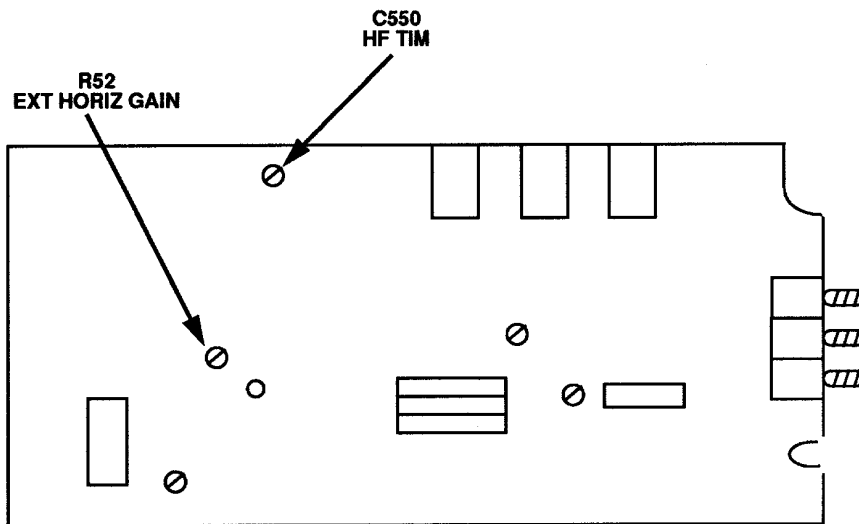
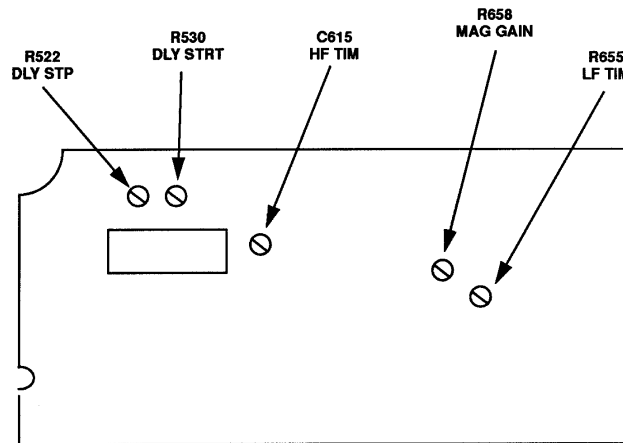

Figure 1. Test instrument A board - left-side view.
Figure 2. Test instrument B board - right-side view.
(1) Connect oscilloscope calibrator **SOURCE/MEASURE CHAN 1** to **TI EXT HORIZ AMPL.**
(2) Set oscilloscope calibrator **VOLTAGE** output for .5 V, 1 kHz.
(3) Adjust **TI POSITION** control to position dots to extreme right and left vertical graticule lines.
(4) Adjust dual trace amplifier **CH 1 POSITION** control to vertically center the dots.
(5) Adjust oscilloscope calibrator **EDIT FIELD** knob for 10 divisions of horizontal deflection on oscilloscope. If oscilloscope calibrator **err** display does not indicate within $\pm 3\%$, perform **b** below.
b. Adjustments Adjust oscilloscope calibrator **EDIT FIELD** knob for a 0.0% **err** display indication. Adjust **R52 EXT HORIZ GAIN** (fig. 1) for a 10 division horizontal deflection on oscilloscope (R).
(1) Release TI SWP MAG pushbutton (out), set TI MAIN SEC/DIV switch to 1 m and oscilloscope calibrator MARKER output for 1 mS/D. If necessary, adjust oscilloscope calibrator EDIT FIELD knob for a 0.0% err display indication.
(2) Adjust TI POSITION control to align 1st time marker with 1st vertical graticule line (extreme left). Adjust R655 LF TIM (fig. 2) to align one time marker per division (R).
(3) Press TI SWP MAG pushbutton. Adjust R658 MAG GAIN (fig. 2) to align one time marker per division (R).
(4) Release TI SWP MAG pushbutton (out), set TI MAIN SEC/DIV switch to .5 μ and oscilloscope calibrator MARKER output for .5 μS/D.
(5) Adjust TI POSITION control to align 1st time marker with 1st vertical graticule line (extreme left). Adjust C550 HF TIM (fig. 1) to align one time marker per division (R).
- (1) Set TI **MAIN SEC/DIV** switch to **1 μ** , **DLY'D SEC/DIV** switch to **.5 μ** and oscilloscope calibrator **MARKER** output for **.5 μ S/D**. If necessary, adjust oscilloscope calibrator **EDIT FIELD** knob for a 0.0% **err** display indication.
- (2) Adjust TI **POSITION** control to align 1st time marker with 1st vertical graticule line (extreme left). Adjust C615 HF TIM (fig. 2) to align one time marker per division (R).
- (3) Adjust **DELAY TIME MULT** dial to **1.00** and adjust R530 DLY STRT (fig. 2) until intensified portion of trace starts on 2d vertical graticule line (R).
- (4) Adjust **DELAY TIME MULT** dial to **9.00** and adjust R522 DLY STP (fig. 2) until intensified portion of trace starts on the 10th vertical graticule line (R).
- (5) Press **DISPLAY MODE DLY'D SWP** pushbutton. Adjust R530 DLY STRT and R522 DLY STP (fig. 2) equally until time marker is just visible at start of trace.
- (6) Press **DISPLAY MODE INTENS SWP** pushbutton and repeat (3) through (5) above, as necessary, for best compromise.